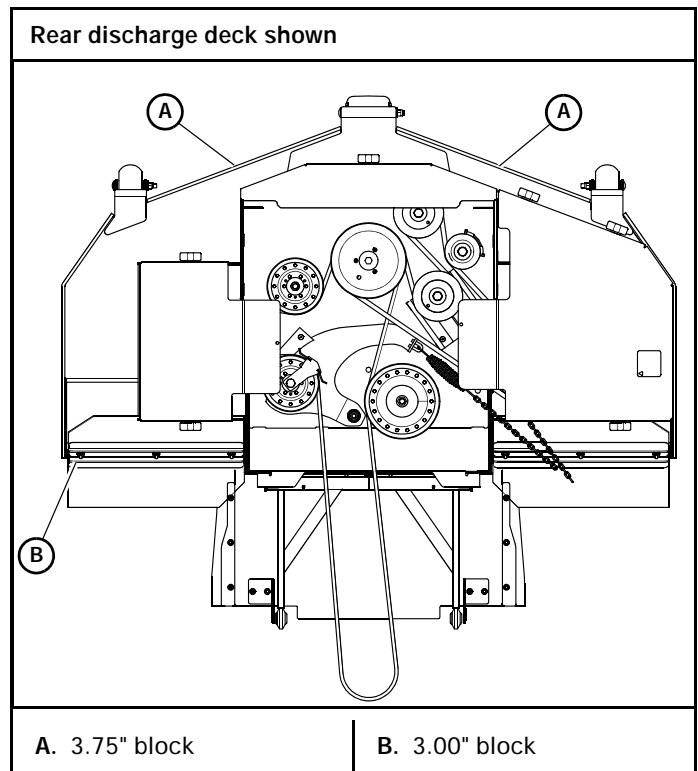

Figure 6-2
**Rear Discharge Decks** (Figure 6-2) – Place two 3.75" (95.3 mm) high deck support blocks (two stacked 2" x 4" blocks and one 1" x 4" can be used to create a 3.75" [95.3 mm] high support) at the front of the deck as shown.